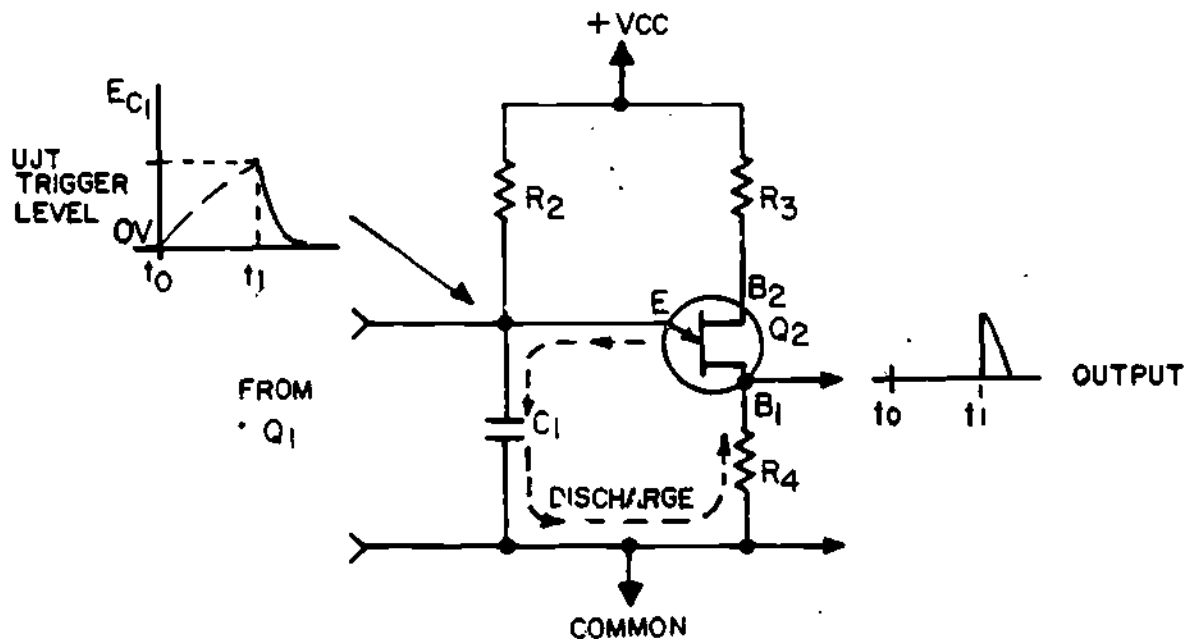

Figure 5
8. Refer to the schematic shown in Figure 5.